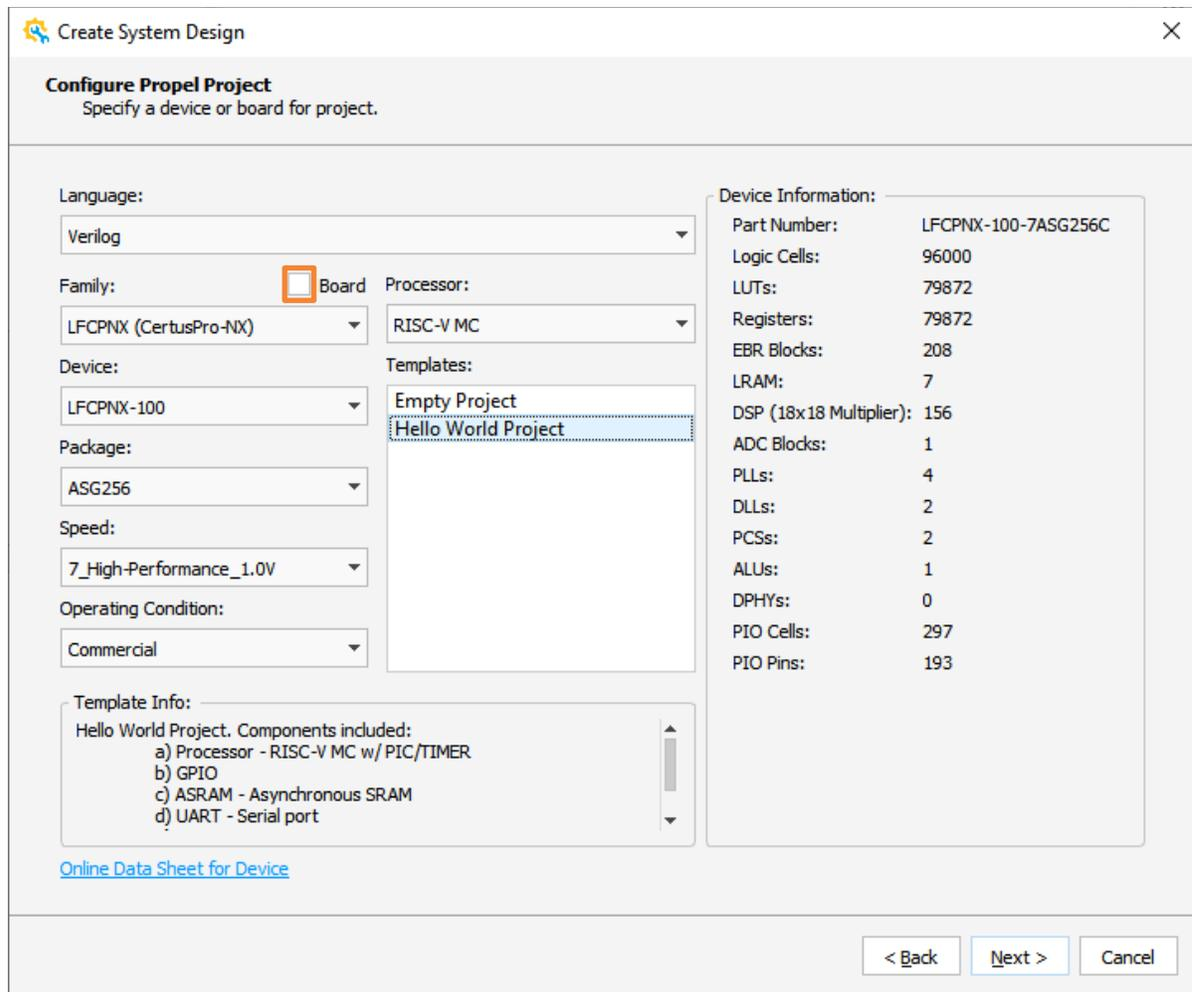

Figure 2.12. Specify a Board for Template SoC Project (1)
- Or, to specify a board for a new Template SoC project, check the **Board** option (Figure 2.12).